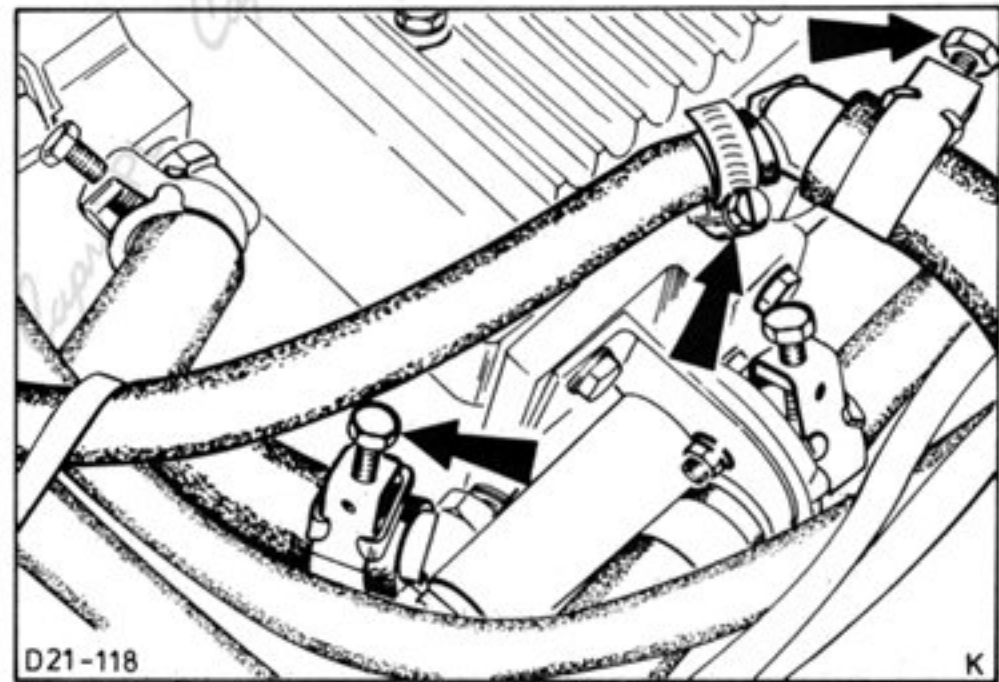

Fig.80. Coolant hoses on the auxiliary air device.
3. Disconnect coolant hoses (3) from intermediate section of the auxiliary air device, Fig.80.